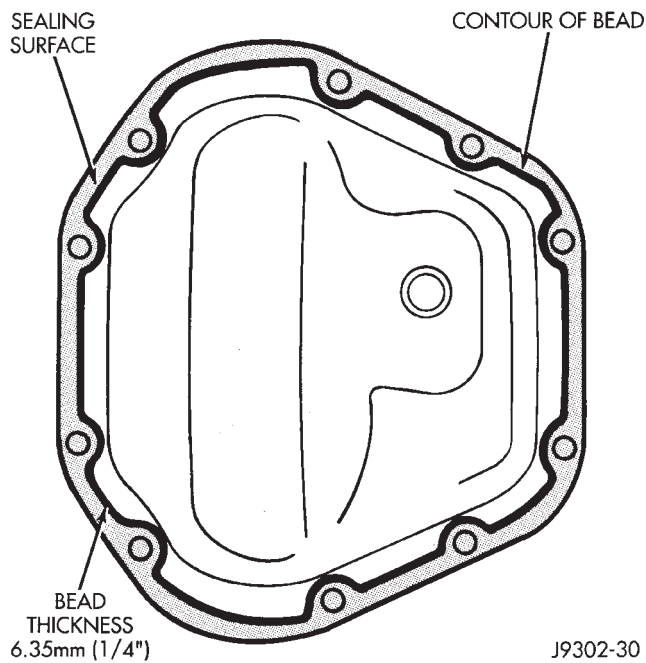

Fig. 2 Typical Housing Cover With Sealant
- (1) Raise and support the vehicle.
- (2) Remove the lubricant fill hole plug from the differential housing cover.
- (3) Remove the differential housing cover and drain the lubricant from the housing.
- (4) Clean the housing cavity with a flushing oil, light engine oil or lint free cloth. **Do not use water, steam, kerosene or gasoline for cleaning.**
- (5) Remove the sealant from the housing and cover surfaces. Use solvent to clean the mating surfaces.
- (6) Apply a bead of MOPAR® Silicone Rubber Sealant to the housing cover (Fig. 2). Allow the sealant to cure for a few minutes.